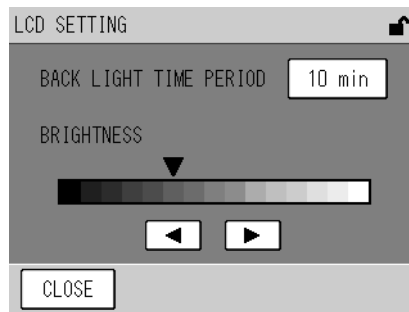

Fig. 86 LCD SETTING screen
- [LCD SETTING]: Displays the LCD SETTING screen (Fig. 86 on page 68).